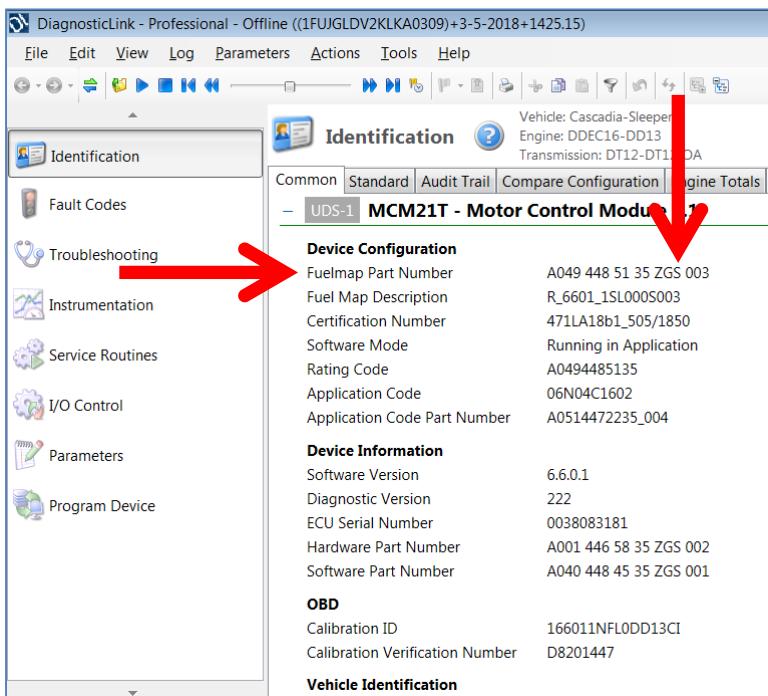

Figure 5 – DiagnosticLink® Identification Screen
7. Is the fuel map part number ZGS level for the MCM and ACM less than, equal to, or higher than the fuel map part number ZGS levels listed in step 5? The MCM and ACM fuel map part number ZGS levels must meet the **MINIMUM** requirements. For example in Figure 5, the MCM software meets the minimum required of 6.6.0.1, but the fuel map part number level ZGS 003 is less than the minimum level of 004 and thus would require programming. **Note that any fuel map part number ZGS level in the MCM or ACM that starts with the number 9 will require reprogramming.**